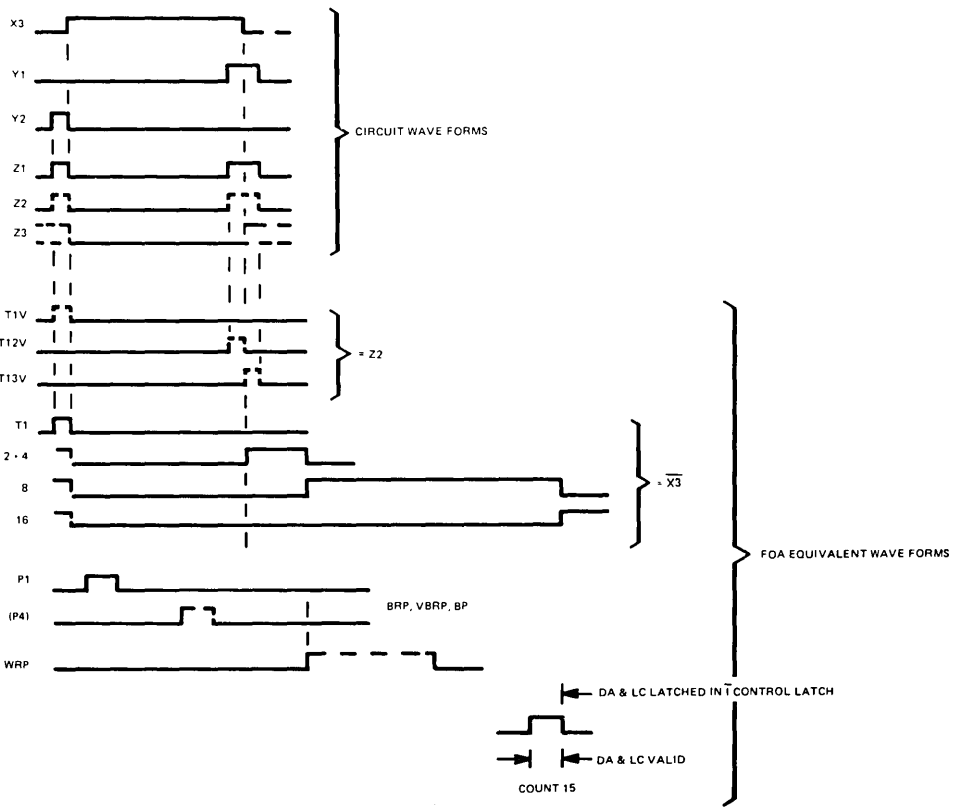
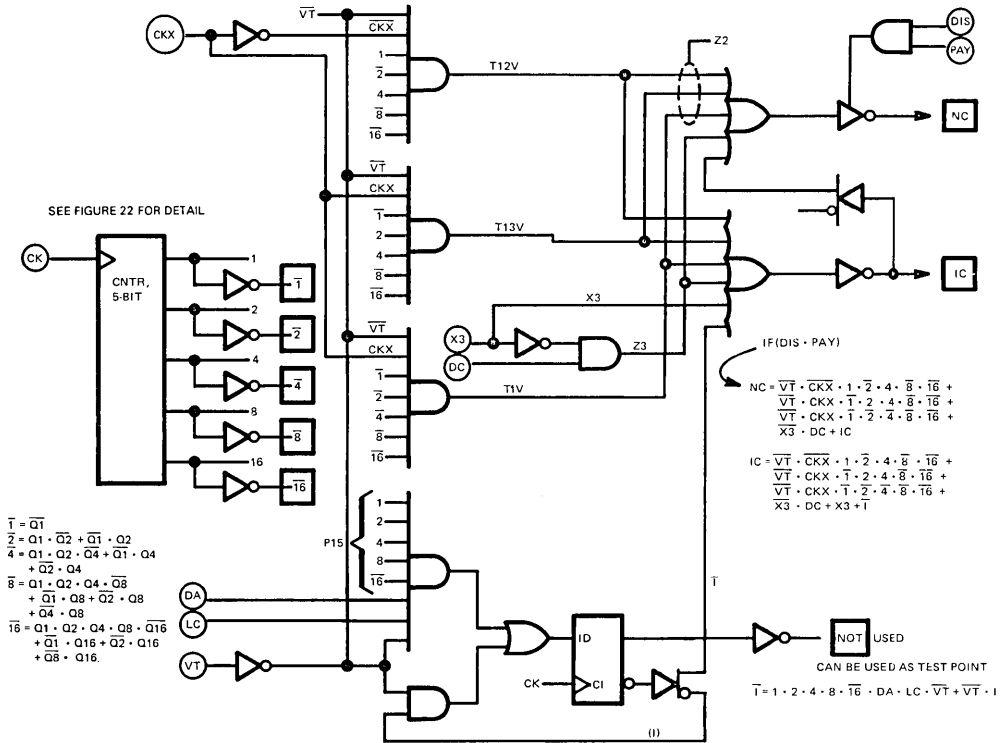
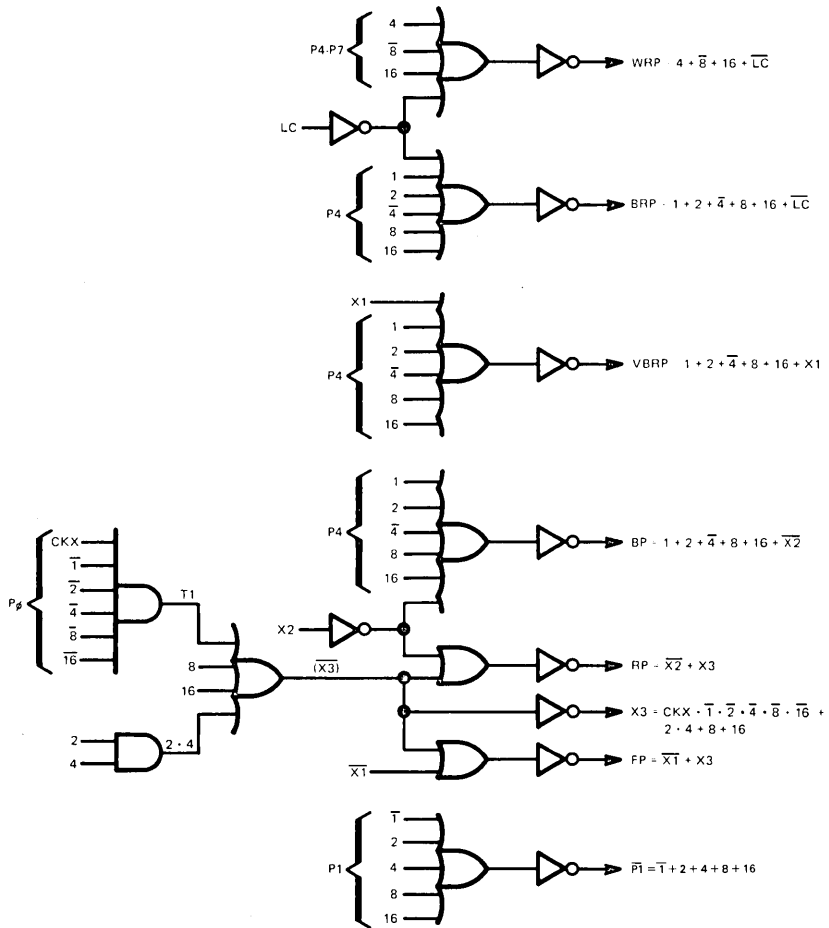
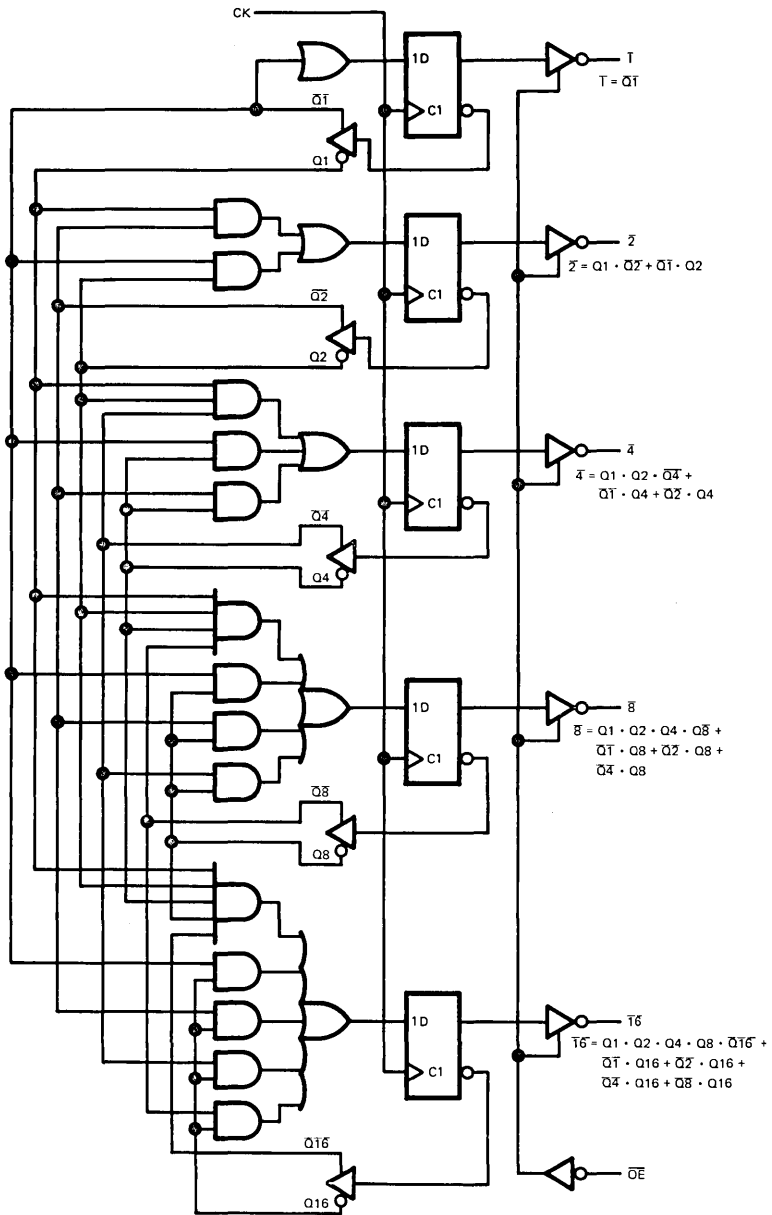

FIGURE 19. TIMING DIAGRAM FOR VIDEO CONTROLLER (SEE FIGURE 18)
FIGURE 20. VIDEO CONTROLLER IMPLEMENTATION, DECODE NUMBER 1 FOR 'PL16R6
FIGURE 21. VIDEO CONTROLLER IMPLEMENTATION, DECODE NUMBER 2 FOR 'PL16L8
FIGURE 22. FIXED-OR ARRAY 5-BIT COUNTER IMPLEMENTATION
Figure 18 is a partial schematic of the decoding portion of a commercially used video controller as implemented with standard catalog SSI logic. Circuit analysis reveals that this circuit is primarily a waveform generator designed to decode the state of the 5-bit counter. The edge-triggered latches are clocked and cleared with respect to the clock (CK) input. Figure 19 is the timing diagram generated to establish the individual waveforms. The labeling defined in the legend of Figure 18 will help understand the partitioning used to implement this circuit using Fixed-OR-Arrays. Most of the original circuit can be implemented by a direct function for function conversion, however, some rearrangement is required to take full advantage of the flexibility of the Fixed-OR-Arrays. Since the FOA has a common clock and no clear, \bar{T} must be developed as shown in Figure 20.
By partitioning the circuit as shown in Figure 18, a pin assignment can be made and the most suited Fixed-OR Array selected. In this example, the 'PL16R6 and 'PL16L8 have been selected. The logic diagram for the equivalent circuit as implemented using the selected devices are shown in Figure 20 and Figure 21 respectively. Figure 22 presents the detailed schematic of the counter. The counter implementation is a part of the 'PL16R6 represented in Figure 20. Figure 21 is included only to complete the conversion example (programming is not shown). The combination of (1) feedback buffers as inputs with true and complement, (2) input true and complement, (3) common clock for D latches and the selectable use of each input allows the entire circuit shown in Figure 18 (excluding the one device circled) to be replaced by two array-logic devices. This results in a part count reduction of 17 to 2 (88%) and an interconnect reduction of 83% plus the reduction in printed circuit board complexity and area.
Now that logic equations have been generated in Figure 20 and Figure 21 as a result of the analysis and restructuring of the circuit implementation, we are ready to prepare for programming the devices as follows:
3. Assign names to each input. In Figure 20 the inputs are circled and the outputs enclosed by a square.
The equations, part number, and pin assignment shown in Figure 20 (same used in manual programming example) are the only requirements for the computer program to generate the fuse pattern for our example as shown in Figure 26. However, a specification such as shown in Figure 25 is recommended not only to assist in inputting data but as a documentation tool to identify and describe the unique part created by programming. Examples of HEX and BLHF output formats are also included in Figure 26. Source code is provided after this example.
COMPUTER-AIDED PROGRAM SPECIFICATIONS AND OUTPUTS FOR DECODE #1 (SEE FIGURE 20)